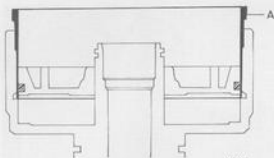

Fig. 4-118. Installing piston for rear clutch
11. Fit the sealing rings for the piston. Use fitting ring 5000 and fit the piston in the clutch case, see Fig. 4-118.